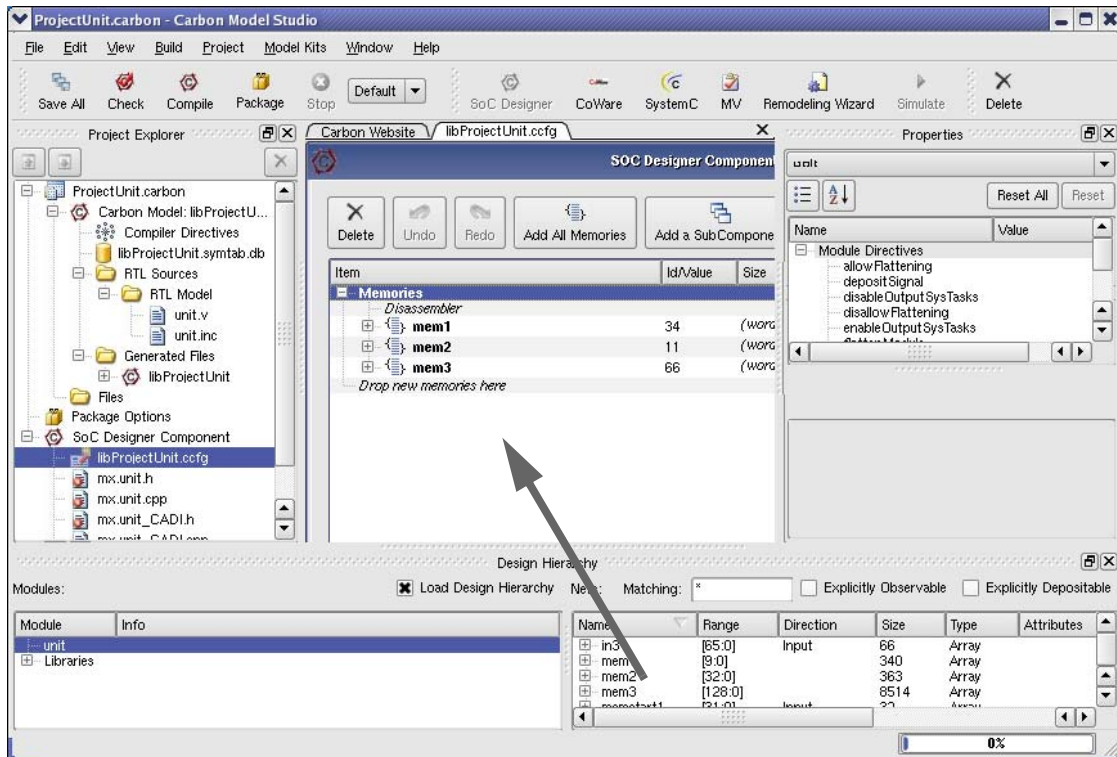

Figure 5-40 Drag Memory to Memories Page
2. Drag the instance to the *Memories* window, as shown in Figure 5-40.
- **Individually.** Highlight individual memories in the *Nets* list of the *Design Hierarchy* pane. Highlight one memory at a time and drag it to the *Memories* box in the main *Memories* tab window, dropping it where you want it to appear in the list (see Figure 5-40).